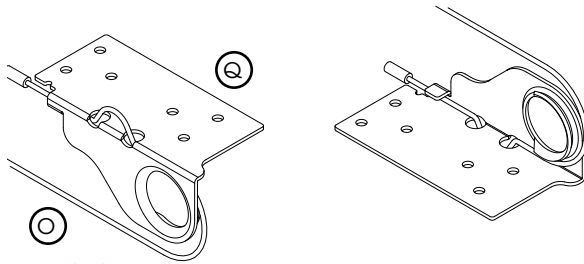

Fig: 2.2.1
- b) Insert each lifting cable (Q), through the holes of the left and right bottom hangers (R) Fig 2.2.1.